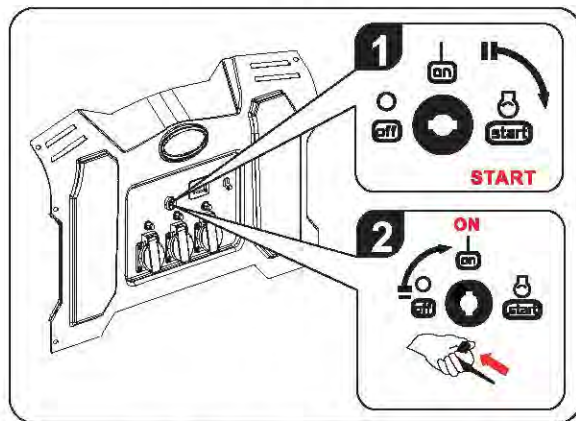

Fig 12 Electric Start
- For electric start, Turn the START/ON/OFF switch (Key) to the "START" position to attempt to start the Engine. If the Engine cranks and fails to start within 15 seconds wait about 1 minute before attempting to start again. (See fig 12)